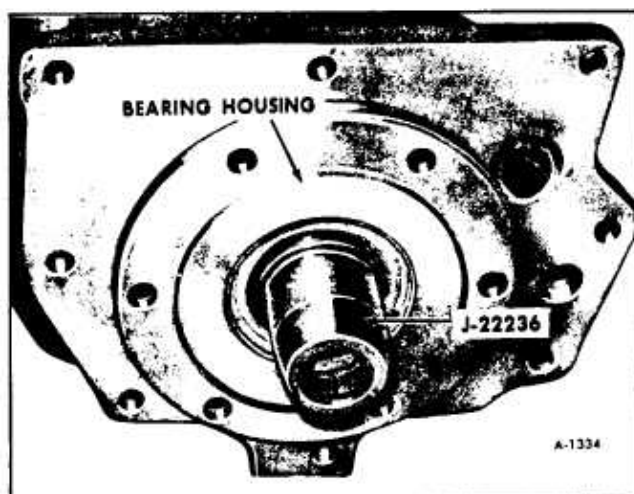

Figure 46—Installing Bearing Housing Into Final Drive Housing
10. Install seal protector J-22236 over drive pinion and install bearing housing over seal protector and position on the final drive housing. Torque the attaching bolts to 35 ft. lbs. (figure 46). Remove Tool J-22236.